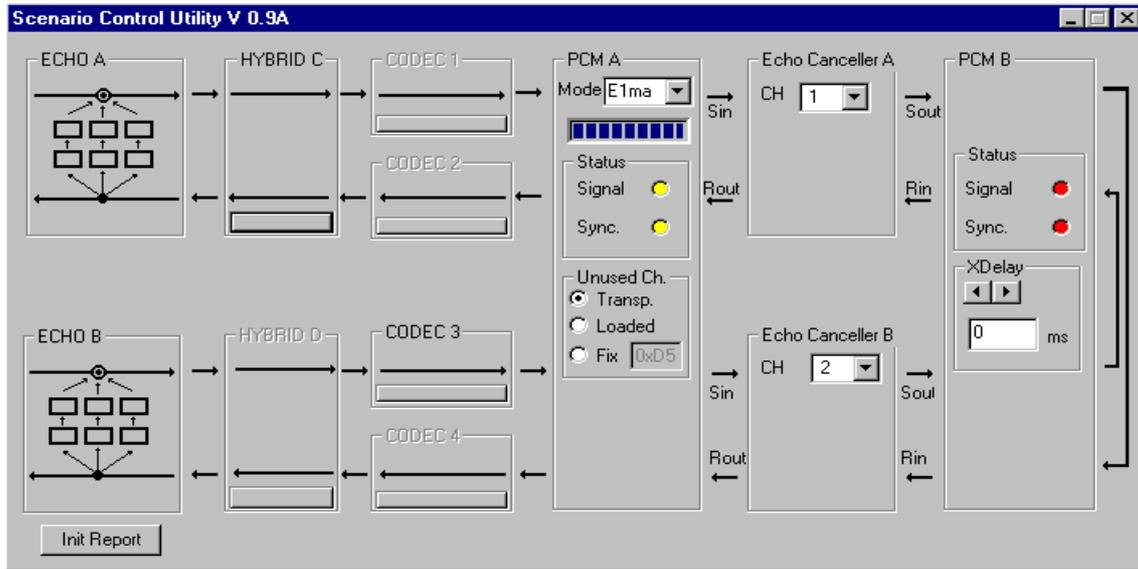

Figure 6-2. The Scenario Control Utility
- After Windows 95 has loaded, the ‘Boot Seq.’ LED will illuminate indicating that the initialization software is loading. A selection of icons will be placed on the *desktop*, and the ‘Scenario Control Utility’ window will be displayed (Figure 6-2).
- Examine the ‘PCM A’ box, which is near the centre of the Scenario Control Utility window. Wait until the Progress Bar has completely lit. (The Progress Bar is near the top of the ‘PCM A’ box, and is shown fully lit in Figure 6-2.)